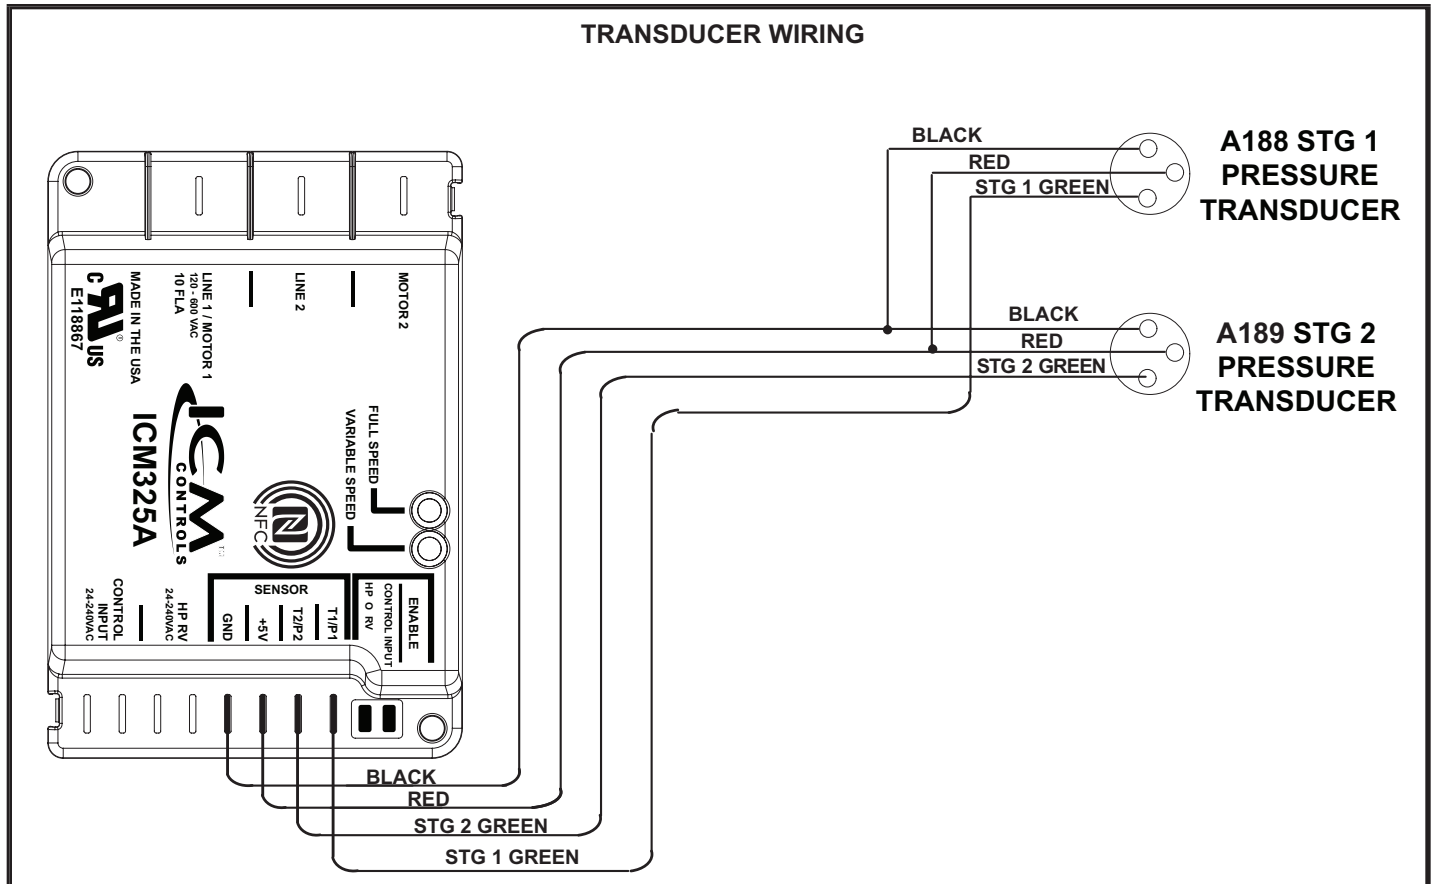

FIGURE 3
- 3 - Make wire connections as shown in figure 3.